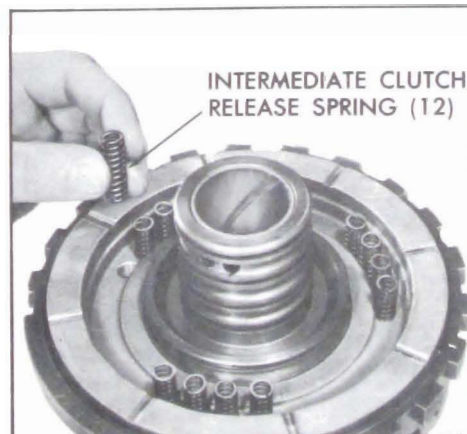

Figure 5-672
4. Install twelve (12) release springs into the piston. See Figure 5-672.